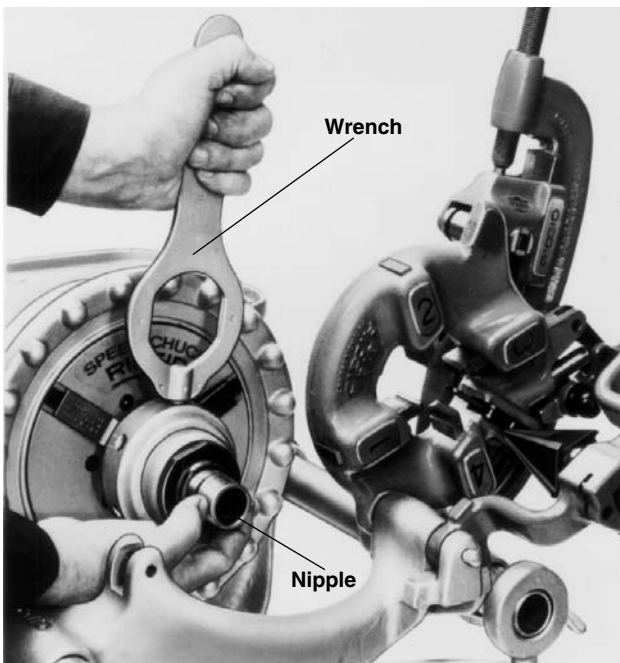

Figure 25 – Releasing Nipple from Nipple Chuck
- Insert pin on end of wrench (Figure 25) into one of holes in nipple chuck release collar and turn. Remove threaded nipple by hand.